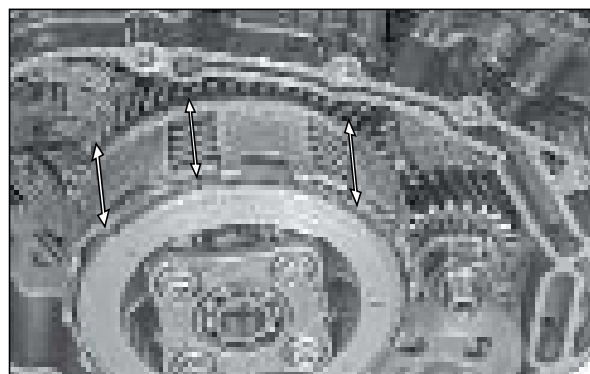

Fig. 3.23
- Ensure the clutch plates are held firmly together by checking the play between the drive plates after tightening the plate clutch release bolts. (Fig. 3.23)